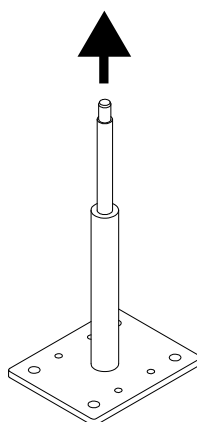

Figure 9.1
- After installation, carry out a traction test on the end devices and on all devices forming a curve/crossing (the **PBS/PBSC** devices must be pulled in the directions indicated by the arrows in Figure 9.1). This test serves to verify that the anchorage and the support structure.